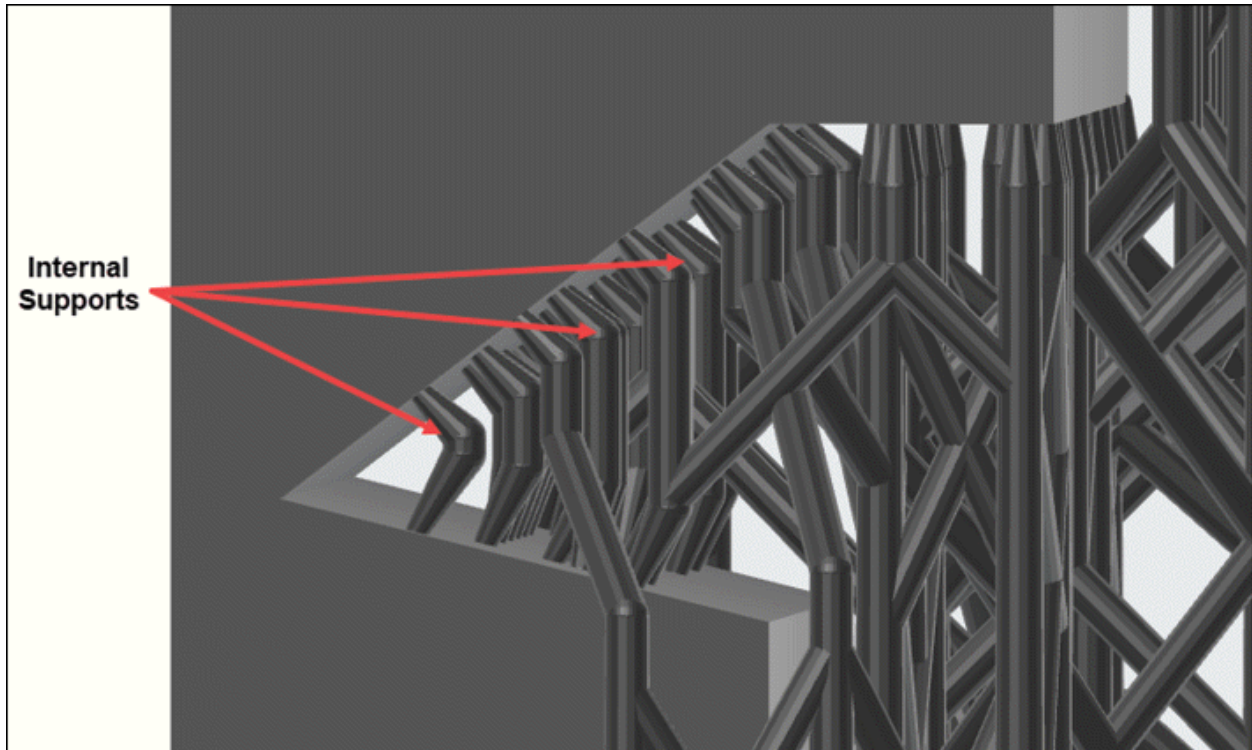

Figure-60. Internal supports created
- Select the **Internal Supports** check box if you want to create internal supports whose start point and end point are on the model; refer to Figure-60.